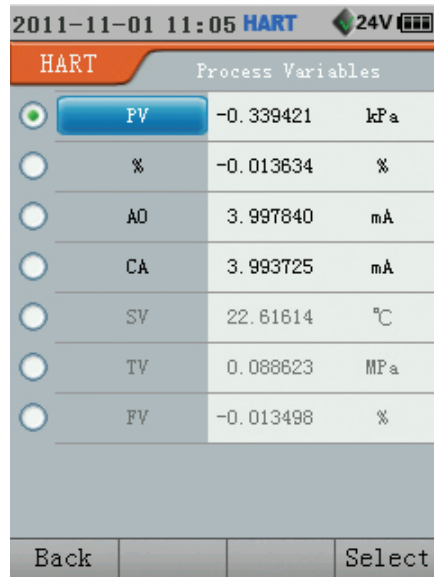

Figure 11.5 HART Process Variables
When the HART Communication interface is active, you can press **Process** to show HART Process Variables interface (Figure 11.5). In this interface, you can view more HART Process Variables including primary variable (PV), range (%) PV current value (AO), loop current (CA), secondary variable, third variable, and fourth variable. PV, %, AO, and CA are selectable (Figure 11.4).